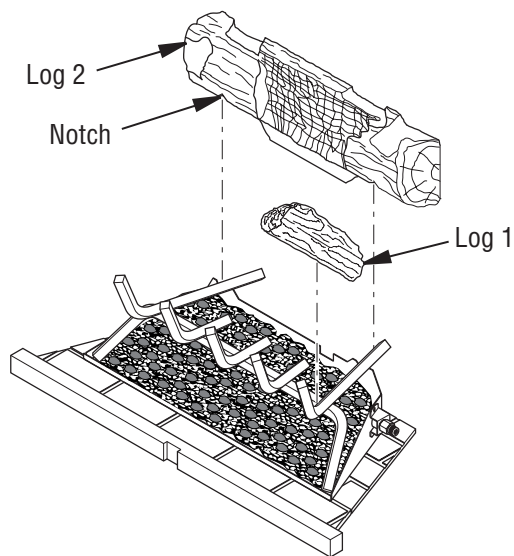

Figure 22 - Installing Logs 1 and 2
1. Place small front right log (log 1) on right front of grate as shown in Figure 22.
2. Place large back log (log 2) onto grate making sure notches rest over grate as shown in Figure 22.